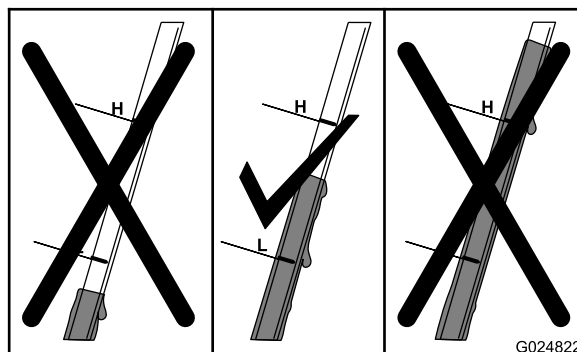

Figure 24
6. Read the oil level on the dipstick (Figure 24).